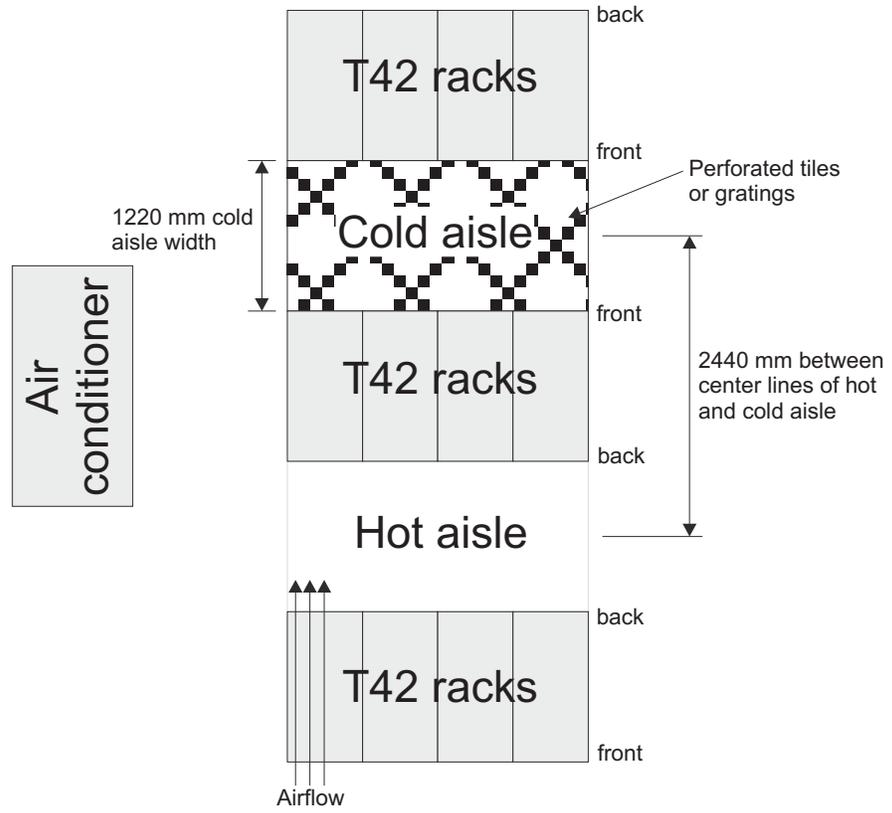

Figure 7. Example of cold aisle/hot aisle rack configuration
- Air enters at the front of the rack and leaves at the back. To prevent the air that is leaving the rack from entering the intake of another piece of equipment, you must position the racks in alternate rows, back-to-back and front-to-front. This arrangement is known as “cold aisle/hot aisle” and is shown in Figure 7 on page 19.